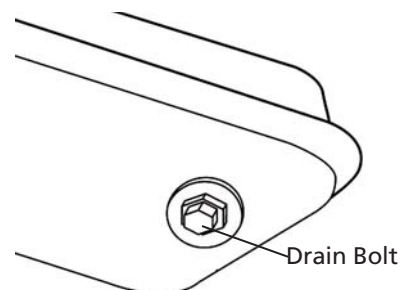

Figure 9 – Drain Bolt Removal
1. Remove drain nut from rear bottom side of fuel tank by unscrewing nut and drain. See Figure 9.